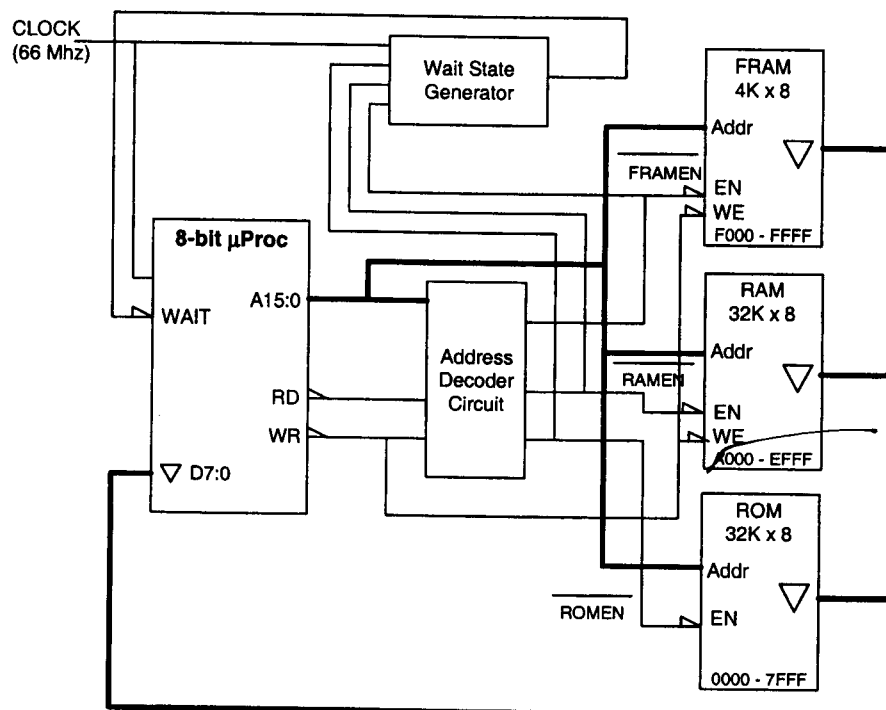

Figure 6.1
6. Figure 6.1 shows the memory interface circuit for a 8-bit microprocessor system with a 16-bit address bus and is controlled by a symmetrical clock running at 66 MHz. The system has three memory components with the following address ranges and chip-enable/address to data access times: